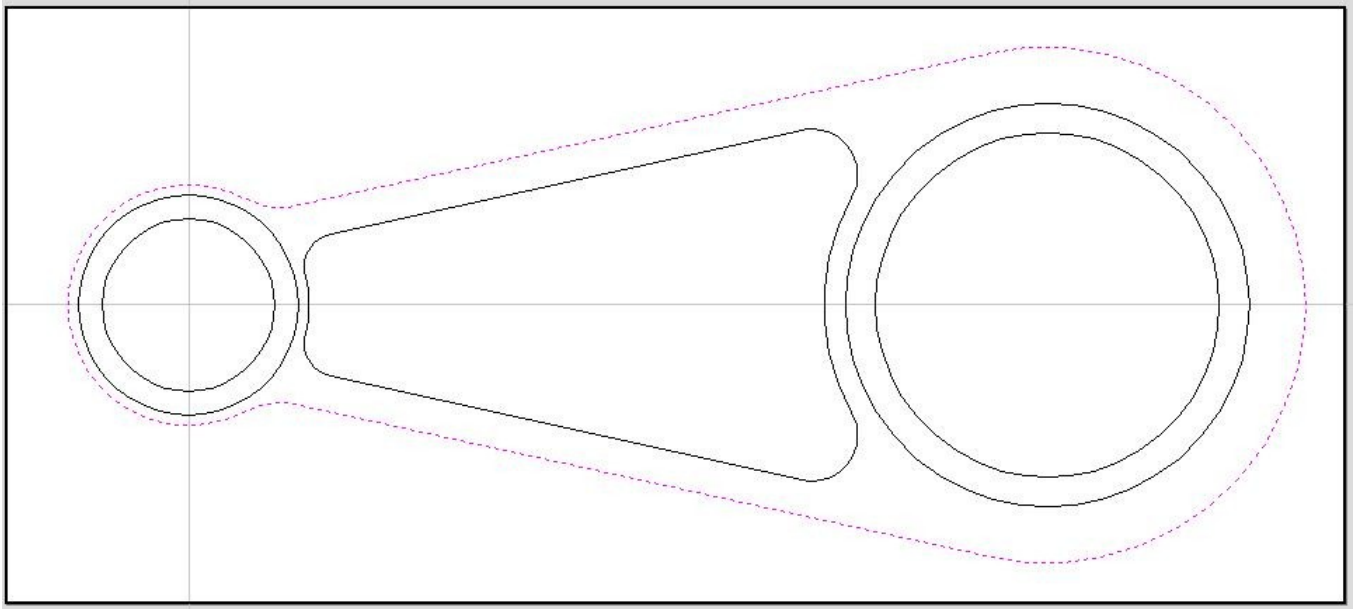

Figure 23. Outer Profile Vector Selected.
- Our final toolpath will profile the outside edge of the rod, to produce this first select the outer vector of the rod. (as shown in Figure 23.)